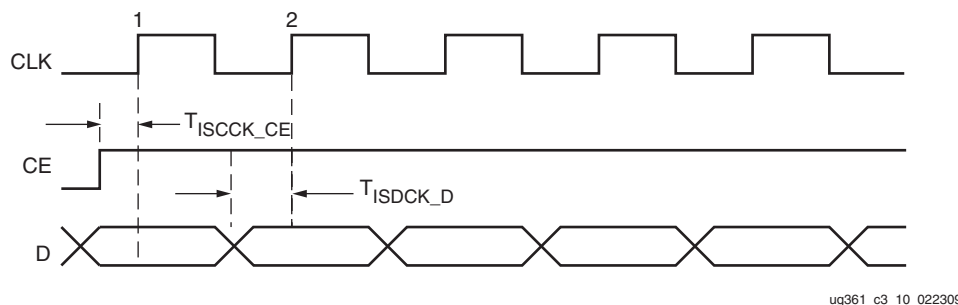

Figure 3-12: ISERDES Input Data Timing Diagram
Figure 3-12 illustrates an ISERDES timing diagram for the input data to the ISERDES. The timing parameter names change for different modes (SDR/DDR). However, the names do not change when a different bus input width, including when two ISERDES are cascaded together to form 10 bits. In DDR mode, the data input (D) switches at every CLK edge (rising and falling).